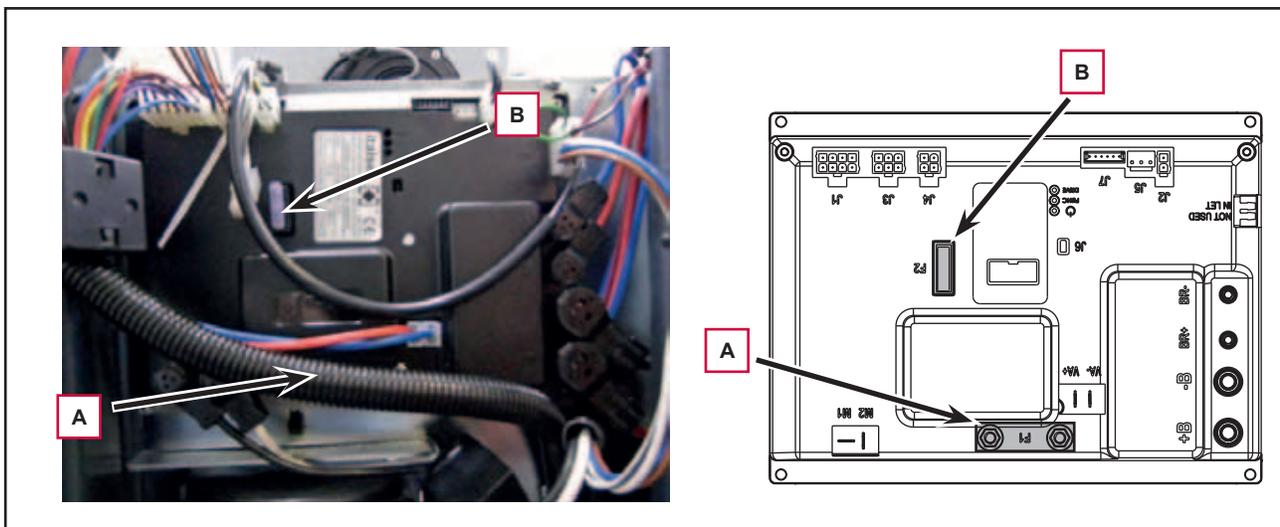

Figure 7
6. Check/replace the following fuses (Figure 7):
- (F1) 100A midi fuse - Function electronic board (A).
- (F2) 3A blade fuse - Signal circuits (B).